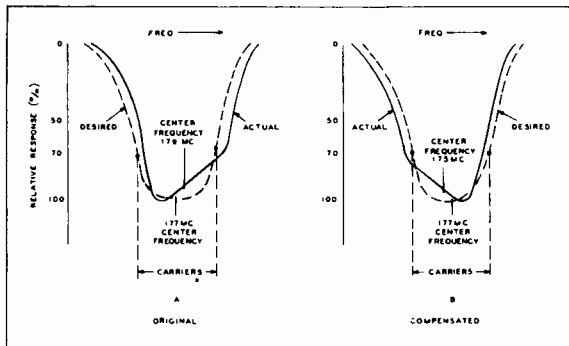

Figure 6. Television Tuner Response Curve, Showing Tracking Compensation
10. On Channel 7, observe the tilt, and center frequency of the response curve. The curve should be centered in the pass band and should be symmetrical. If it is not symmetrical and appears unbalanced, as in figure 6, adjust C507 and C512 (figure 4) to obtain a response curve which is the mirror image (tilt in the opposite direction) of the original; for example, if Channel 7 response curve appears as in figure 6A, adjust C506 and C514 until the curve appears as in figure 6B. This adjustment overcompensates to make allowance for the effect of Channel 13 adjustments (to be made in step 11) upon Channel 7 response.
15. Readjust TC503 and TC506 for a symmetrical response, centered about 85 mc. and falling within the specifications as shown in figure 6. Channels 2 through 6 are now correctly aligned.